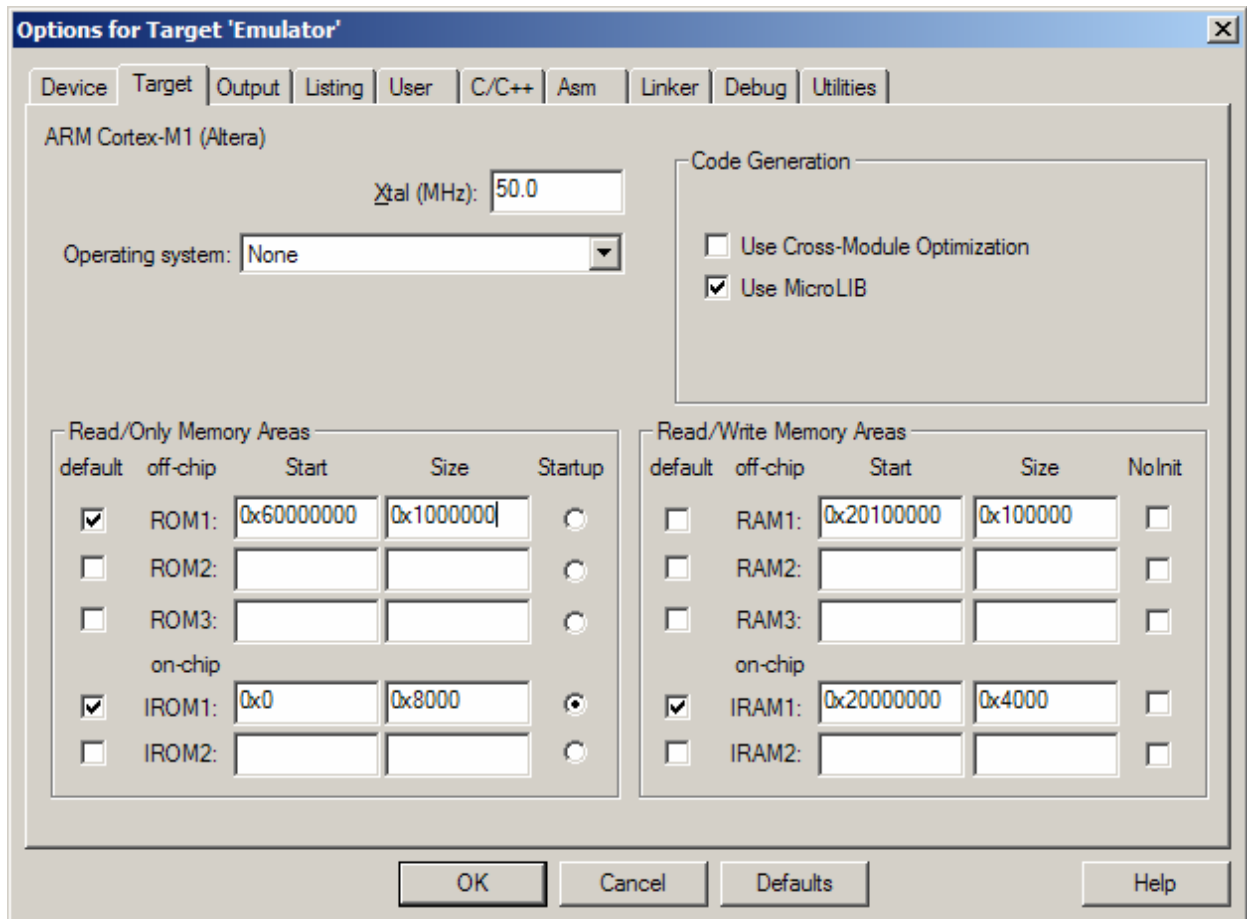

Figure 5 – RealView MDK Target options
2. Enter the details of your flash memory as it appears in the processor's address map. You must specify the base address and size in the memory layout pane. Figure 5 shows an example where a 16MB block of flash memory is accessible at a base address of 0x60000000 in the processor's address space.